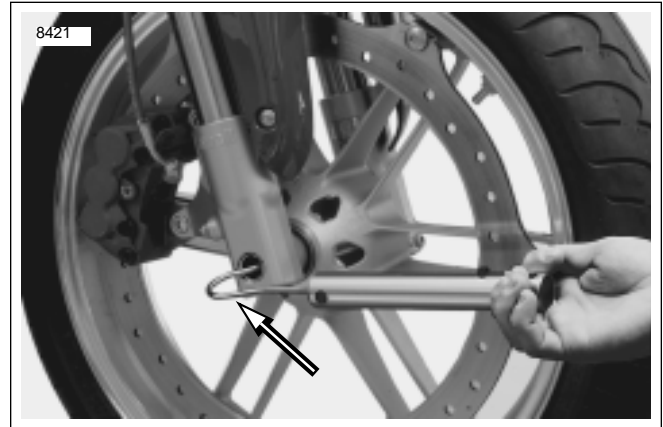

Figure 1-40. Measuring Steering Head Bearing Resistance (Typical)
6. See Figure 1-40. Hook a spring scale into the hole in the front axle. With scale 90 degrees from fork leg, pull front wheel to center position.
7. See Figure 1-40. Hook a spring scale into the hole in the front axle. With scale 90 degrees from fork leg, pull front wheel to center position.